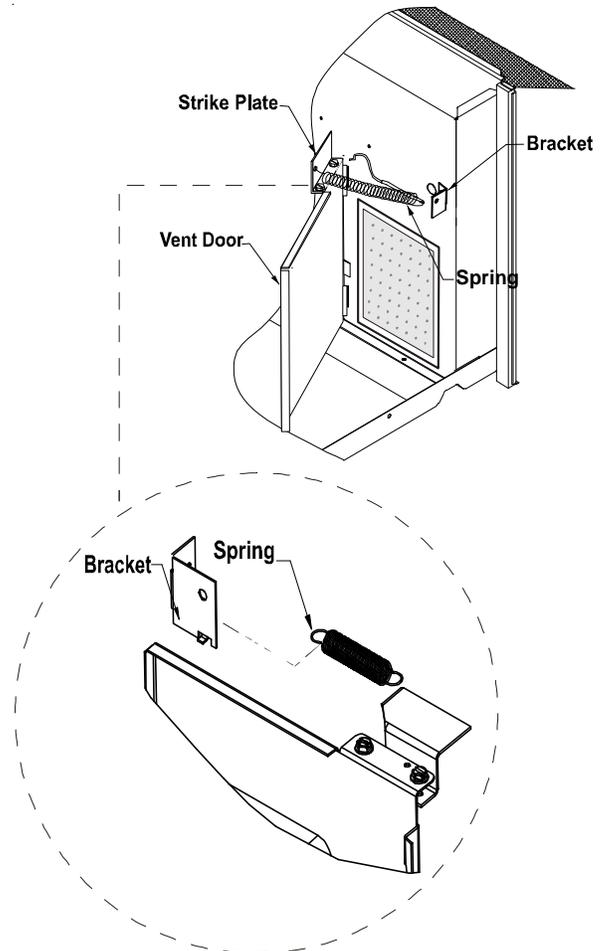

Figure 6
8. Attach the "L" shaped bracket to the partition panel (Figure 6).
9. Reattach the vent door to the partition panel by inserting the vent door's metal tabs into the panel slots (Figure 6).
10. Attach one end of the spring to the hole in the bracket on the partition panel. Attach the other end of the spring to the hole located in the bracket which is fastened to the vent door (Figure 6).